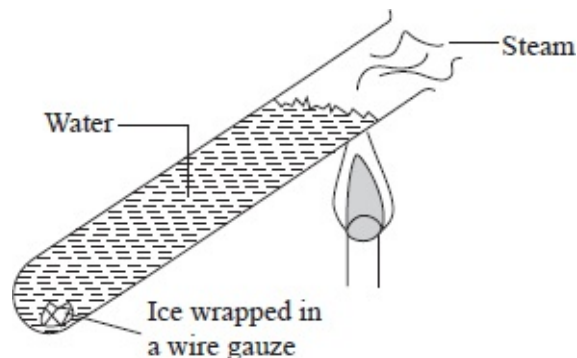

Fig. 7.10: Demonstrating thermal conductivity of water
- Set up the apparatus as shown in figure 7.10.